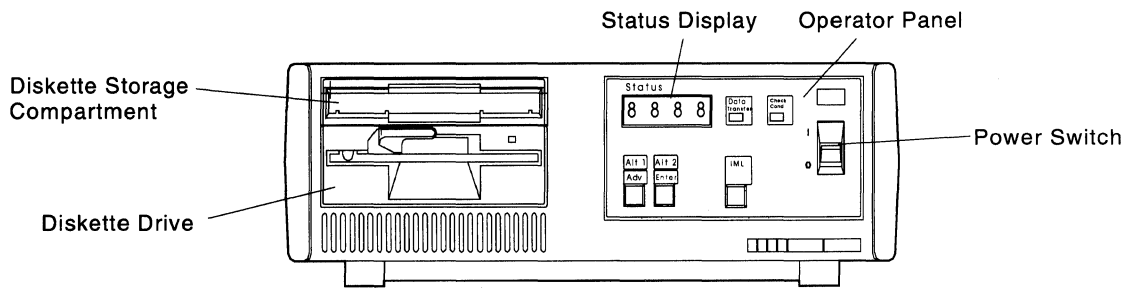

Figure 1-4. 3174 Models 81R, 82R, 91R, and 92R
- 81R, 82R, 90R, 91R, and 92R. See Figure 1-4 on page 1-5.